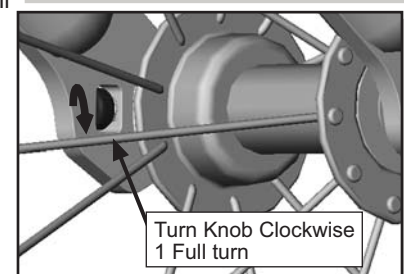

Fig. 6 Left Adjust Knob
- b. Turn the left knob clockwise 1-full turn, as shown in Fig. 6, thereby pushing the left side of the wheel forward. Retighten quick release.